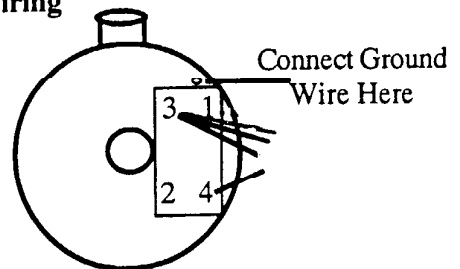

Figure 6
Step 1: Connect the neutral wire (white, typically) up to Pole #1. See Figure 6. The Figure is shown for *counterclockwise* rotation internal wiring, but is also valid for *clockwise* rotation when connecting external wires.